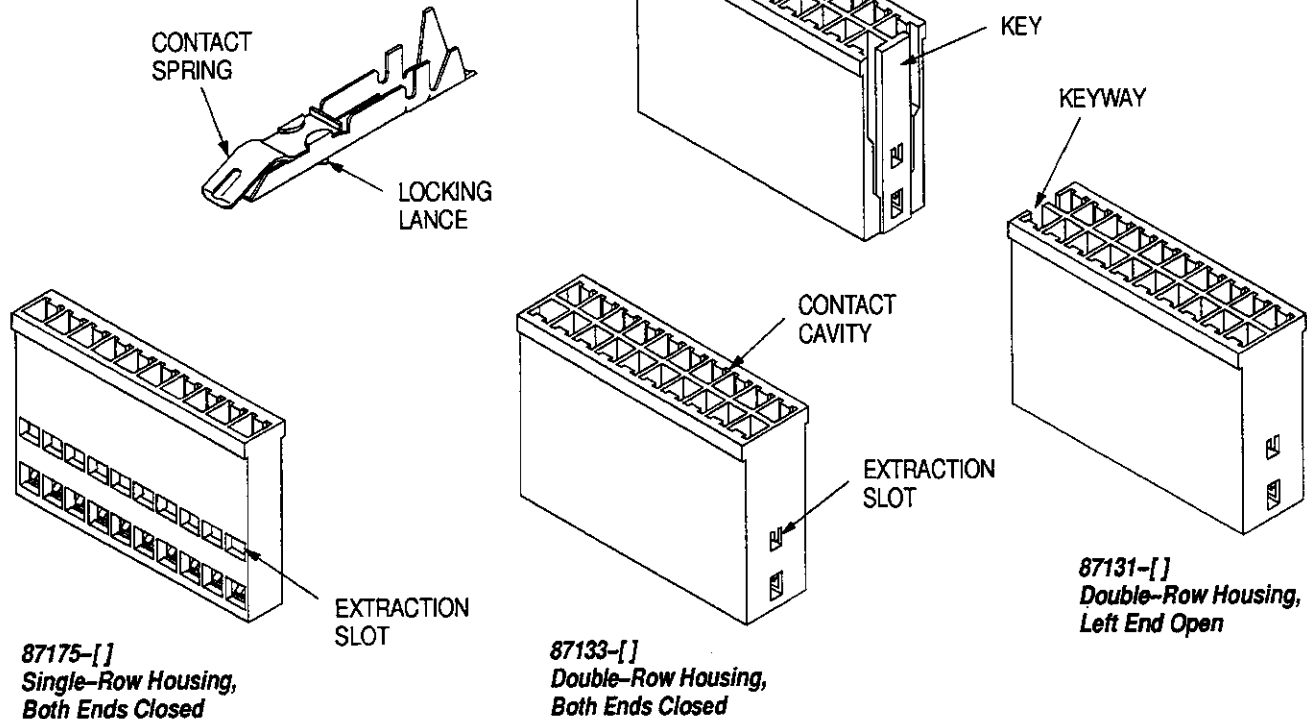

Figure 1
This instruction sheet covers the installation of AMP AMPMODU Locking Clip Contacts and Housings (shown in Figure 1) onto 0.64-mm [.025-in.] square posts. The contacts are designed to be crimped onto wire size 20-30 AWG with an insulation diameter of 0.97 to 2.54 mm [.038 to .100 in.] and installed directly onto posts or inserted into the housings and then installed onto posts.
2. DESCRIPTION (Figure 1)
- Modified Figure 1